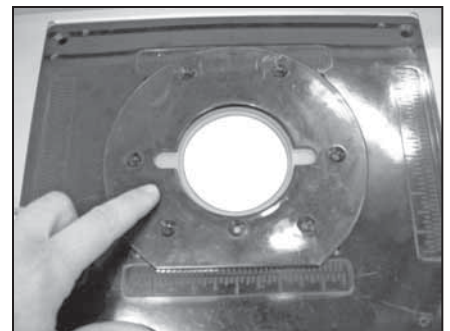

Figure 13
2. Center the sub-base on the router plate. You may find it easier to snap in one of the table rings to help find the center of the opening. See Figure 13.